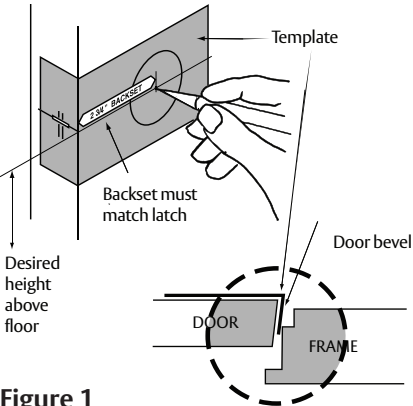

Figure 1
- 1. Use template A8290 to mark the door. See Figure 1.